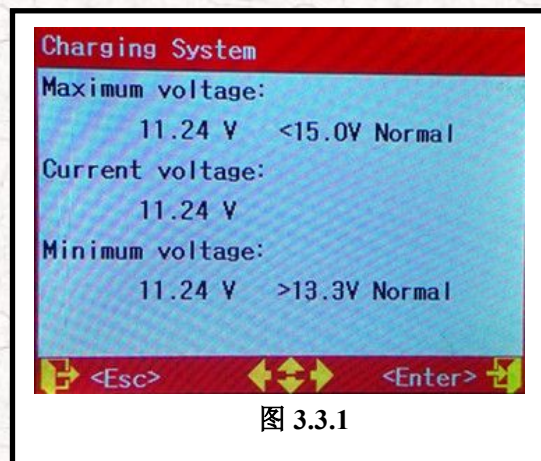

图 3.3.1
- 2, press <Enter> to start testing, enter the test screen (Figure 3.3.1)